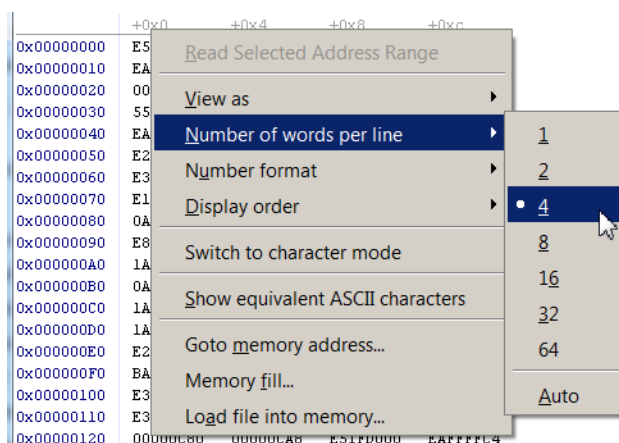

Figure 38. Setting the number of words per line.
- Number of words per line - the number of words per line can be configured to make it easier to find memory addresses, as depicted in Figure 38.